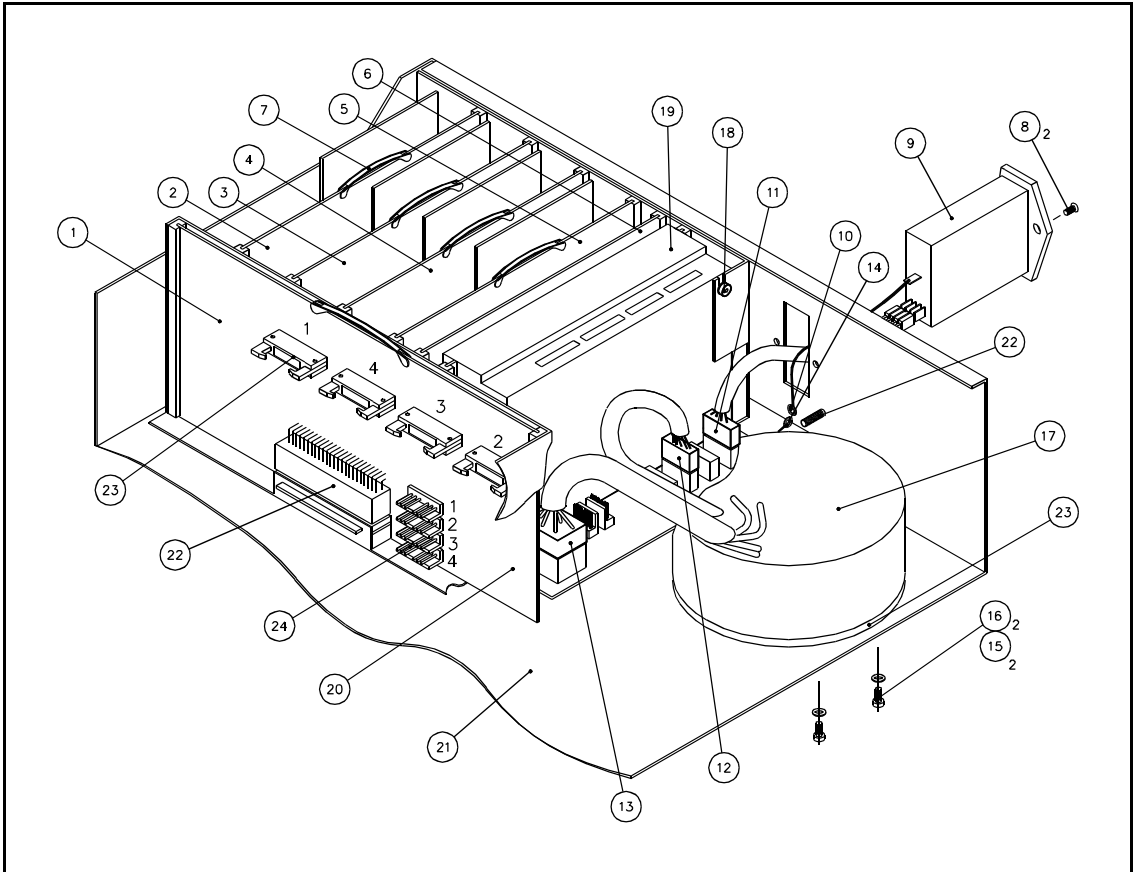

Figure 6.4 Card frame, transformer and IEC appliance adaptor
6.9 Switched mode power supply (Refer to figure 6.4)
Refer to figure 6.4
6.11 Power connector (Refer to figure 6.4)